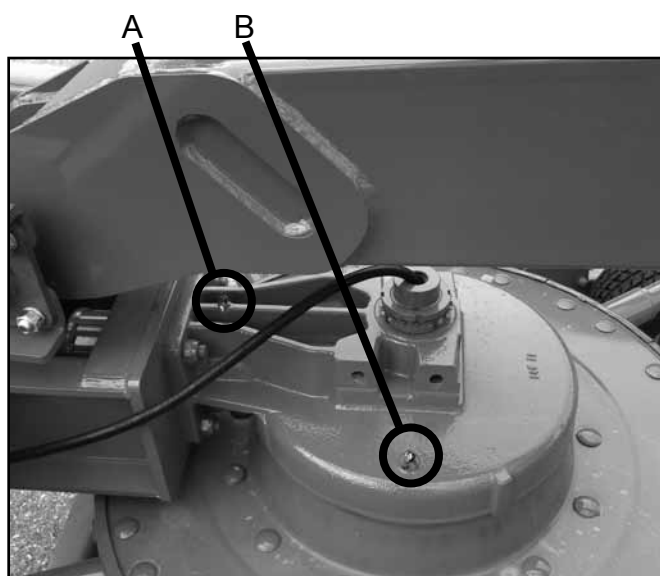

Figure 15
There are two grease fittings on top of each rotary gearbox (Figure 15). The one on the very top of the gearbox (A) lubricates the pinion bearings and will need very little grease. The other one (B) lubricates the ring gear and should be greased after every 10 hours of use. There are no grease points on the horizontal gearbox arms. These arms are encased in plastic bushings and do not need to be greased.